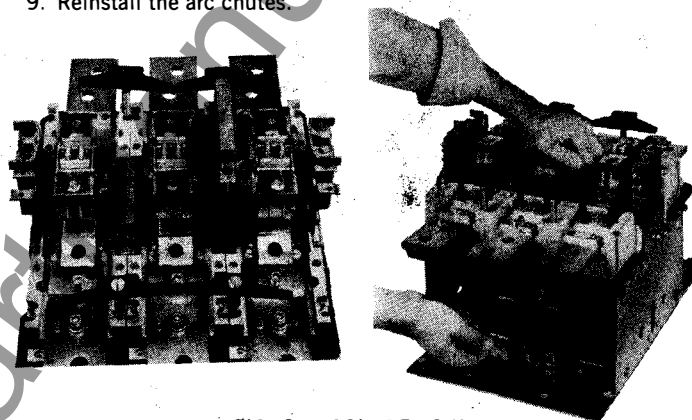

FIG. 2 — COIL REMOVAL
5. When main contacts touch, pull upward on the lever located directly behind the L2 terminal to lock open the magnet. Then release the pressure on the movable contacts until they stop at their full open position. See Fig. 2.